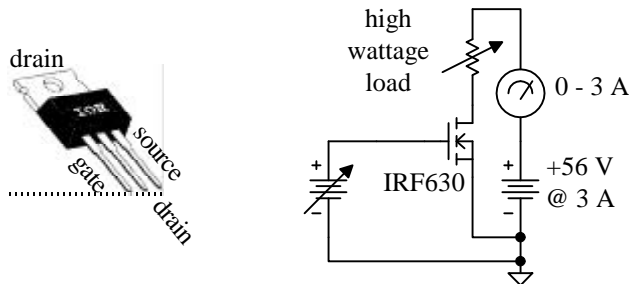

Figure 5-30 V_{GS} versus I_D test circuit
- 1. Build the circuit in Figure 5-30.